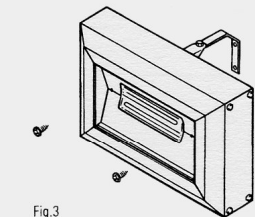

Fig.3
4. Remove the two screws at either side of the ceramic element (Fig. 3).